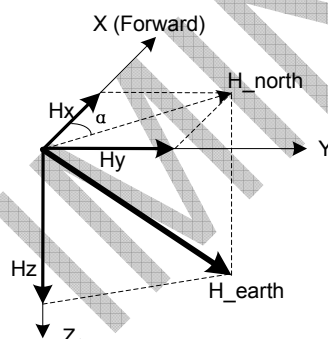

Fig.1 Geomagnetism decomposer
Electronic compass uses geomagnetism to find the azimuth or the heading direction. Let X axis of compass point forward and Y axis point to the right (Fig.1). When X and Y axes are in the horizontal plane using formula (1) we can calculated the azimuth or the heading direction angle (α).
If CMx represents the compensated x direction magnetic field output and CMy is the compensated y direction magnetic field output, the tilt compensation formula for magnetic output should be (Regarding to x, y and z directions in Fig.1):